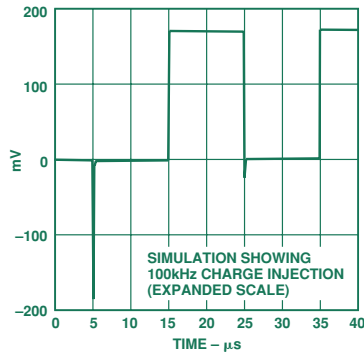

Figure 11. Output of simulation to show the effect of charge injection switching at 100 kHz.
**A.** The most efficient way to evaluate a switch’s charge injection performance is to use a setup similar to the one shown below. By turning the switch on and off at a relatively high frequency (>10 kHz) and observing the switch output on an oscilloscope (using a high impedance probe), a trace similar to that shown in Figure 11 will be observed. The amount of charge injected into the load is given by  $\Delta V_{OUT} \times C_L$ . Where  $\Delta V_{OUT}$  is the output pulse amplitude.